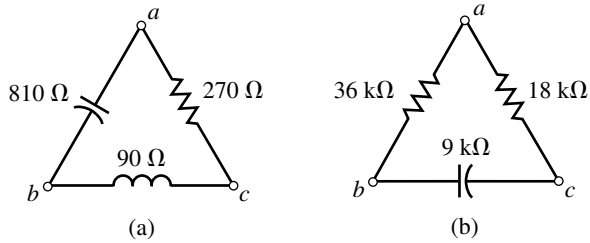

FIGURE 19–65
24. Convert each of the Y networks of Figure 19–66 into an equivalent Δ network.
25. Using $\Delta \rightarrow Y$ or $Y \rightarrow \Delta$ conversion, calculate $\mathbf{I}$ for the circuit of Figure 19–67.